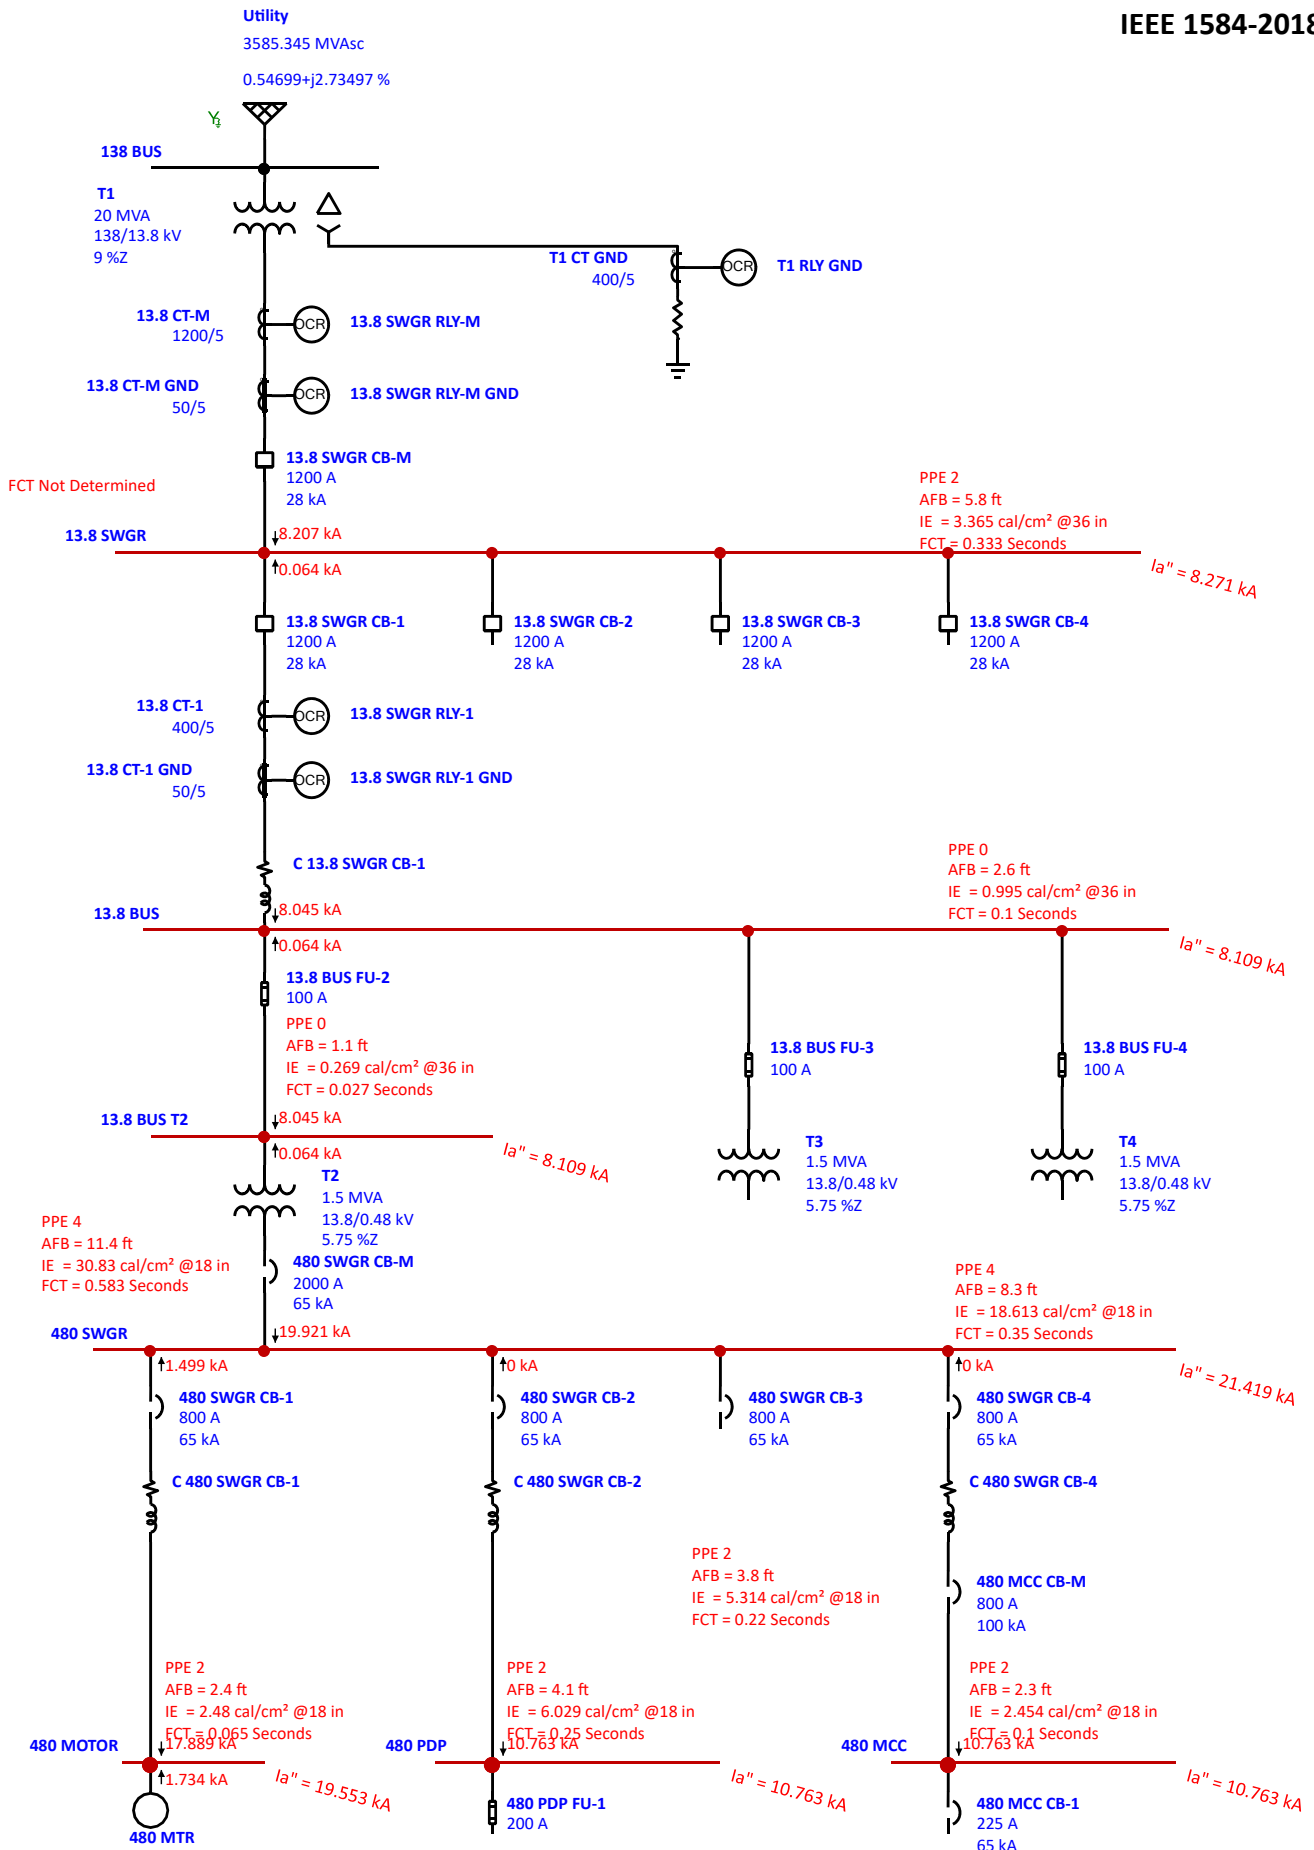

Figure 4
- Figure 4 IEEE 1584-2018 VCB Configuration